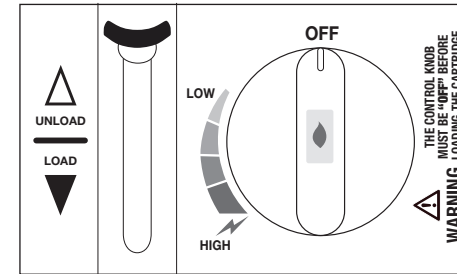

Fig. 3
3. Turn the Ignition Knob to 'OFF' and set the Cartridge Lock lever to 'UNLOAD'. (Fig. 3)